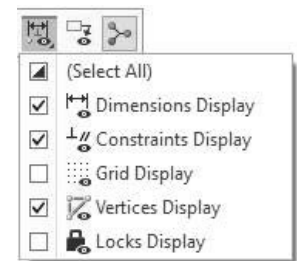

Figure 3-15 Sketcher DisplayControl
**Sketcher Display Filter**—Allows the user to control the display of sketcher dimensions, sketcher constraints, the sketcher grid, and sketcher vertices (endpoints). This tool only shows up when you are in sketcher. See Figure 3-15.